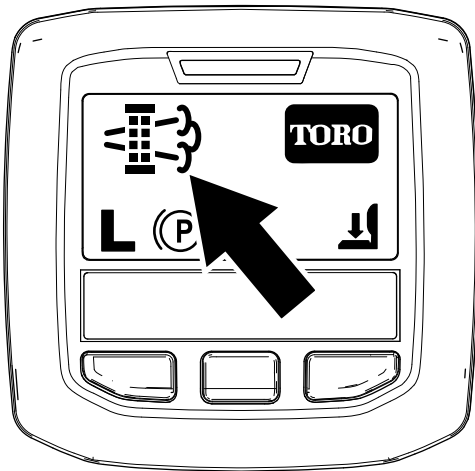

Figure 42
- When the engine computer requests either a parked regeneration or a recovery regeneration, the regeneration request icon (Figure 42) displays in the InfoCenter.